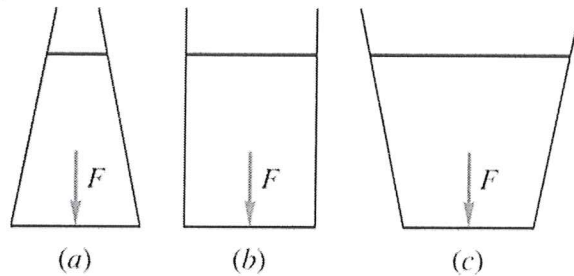

Figure 2
E. Figure 2 shows three containers which have the same bottom area but different shapes. Clearly, the weight of liquid in each tank is different due to differing volumes. The maximum pressure occurs at the bottom of which container?